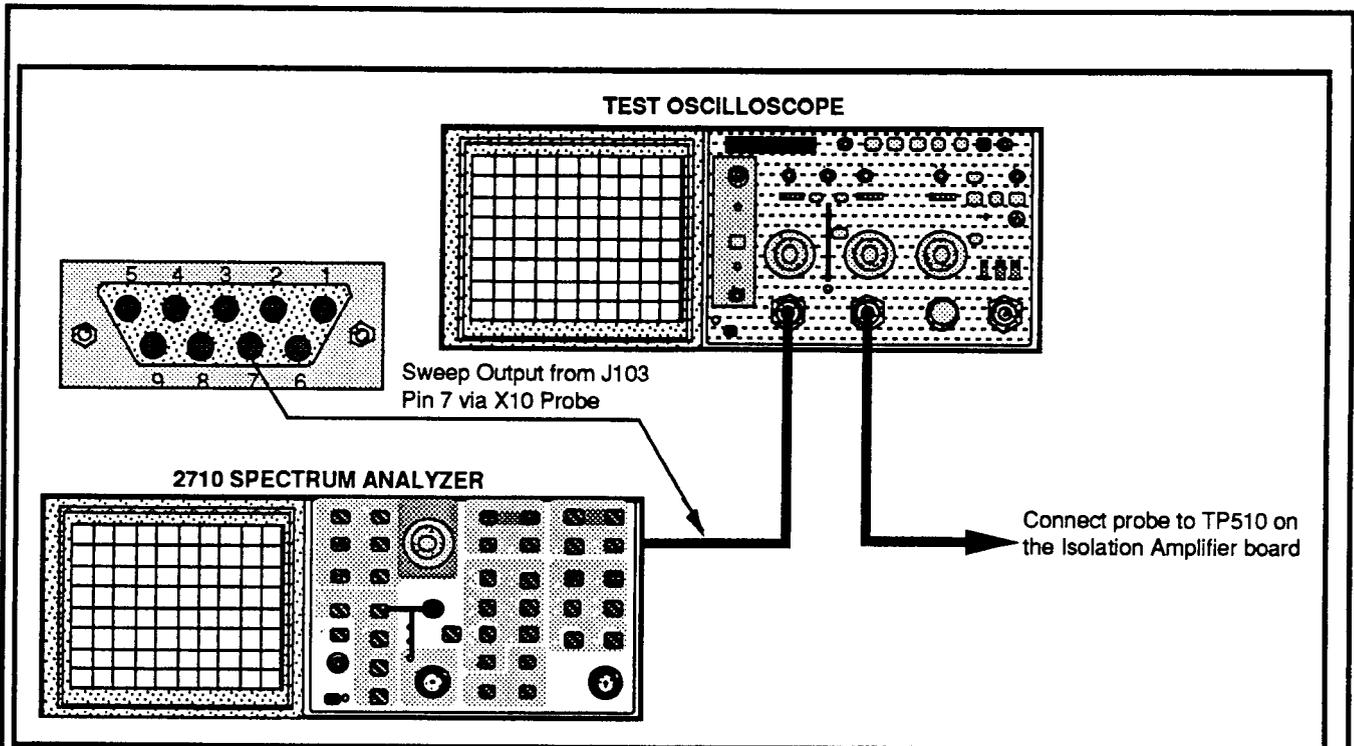

Figure 15. Test equipment setup for adjusting the Isolation Amplifier output level.
i. Connect the test equipment as shown in Figure 15.